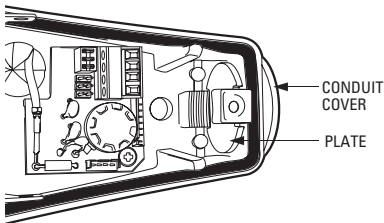

Figure 6. Base Installation with Conduit
- Using the screwdriver bit that is provided, remove the conduit cover and plate by unscrewing the tamperproof screw. Refer to Figure 6.